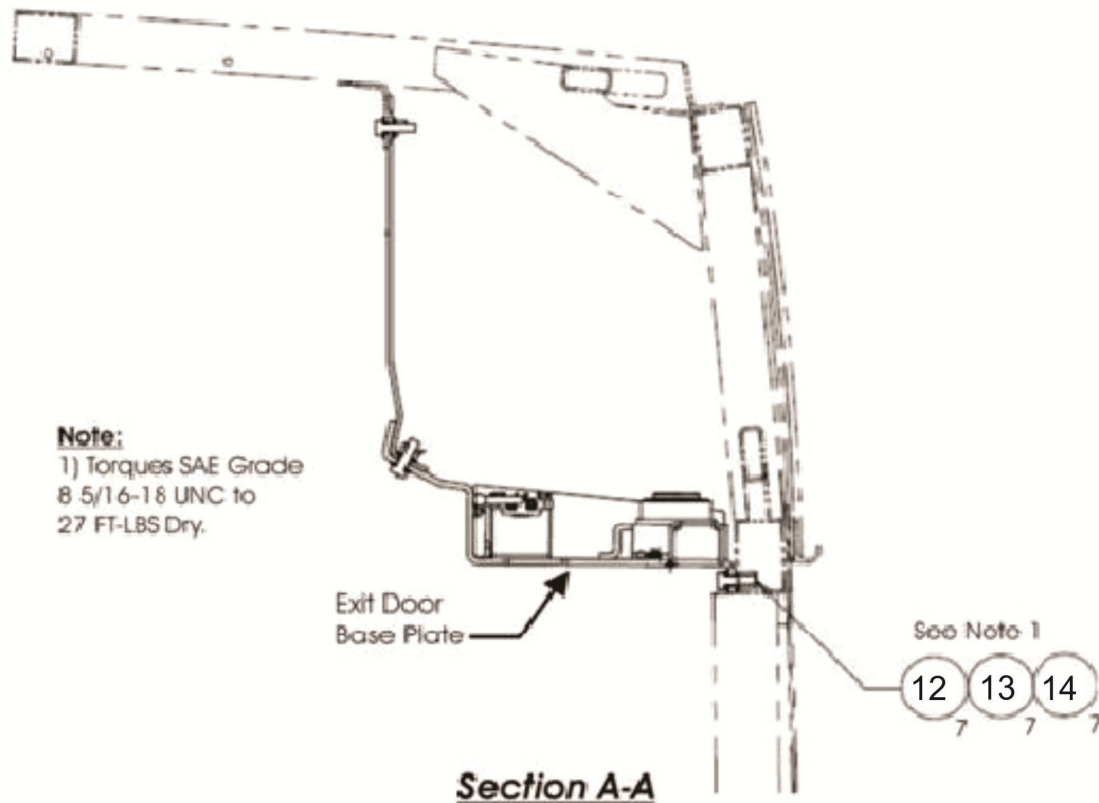

**FIGURE 1 A: SHOWN CONNECTION OF SWING ARMS FOR THE EXIT DOOR POSTS INSIDE THE DOOR
7. Proceed to remove the exit doors from the coach as per the service manual. Set aside all hardware to re-install later. **Note:** This includes the removal of the doorposts, trims and exit header seal. If new hardware is required at the top of the door posts, use the following (NF PN: 103423, 103424 & 103425). Refer to Figure 1.
**FIGURE 1: SHOWN INSIDE VIEW OF THE EXIT DOORS. SEE NOTE FOR TORQUE VALUE FOR THE DOOR HARDWARE. SECTION A-A VIEW WILL SHOW THE COMPONENTS ATTACHED INSIDE OF THE EXIT BASE PLATE. TORQUE VALUE FOR THE LOWER MOUNT HARDWARE FOR THE DOOR POSTS IS 7 FT/LBS WET.**